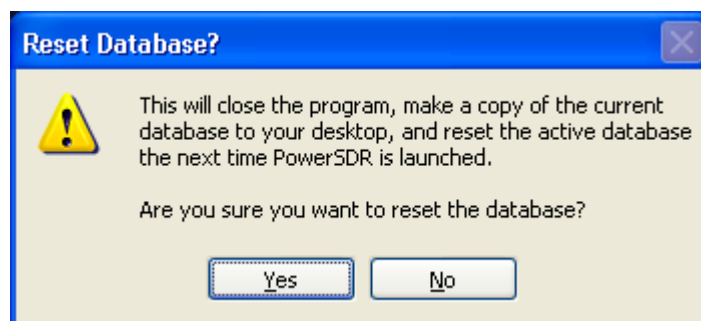

Figure 85: Reset Database Warning
- ❑ **Reset Database:** This displays the warning shown in Figure 85. Click **No** to avoid resetting the database. Click **yes** to reset the database, which entails closing PowerSDR, copying the database file to your desktop and deleting it from its current location. The next time you start-up PowerSDR it will automatically create a new, clean database and read the EEPROM data from your FLEX-3000 to the database. The copy of the database on your desktop is an xml-file named *PowerSDR_database_[date]_[time].xml*.